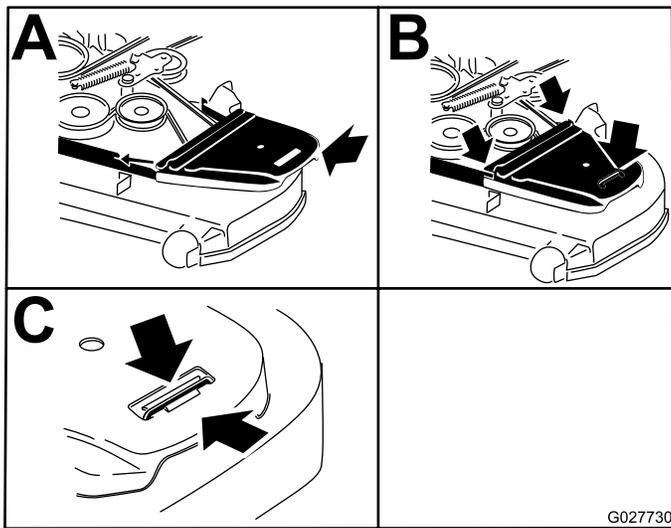

Figure 92
14. Install the belt covers (Figure 92).